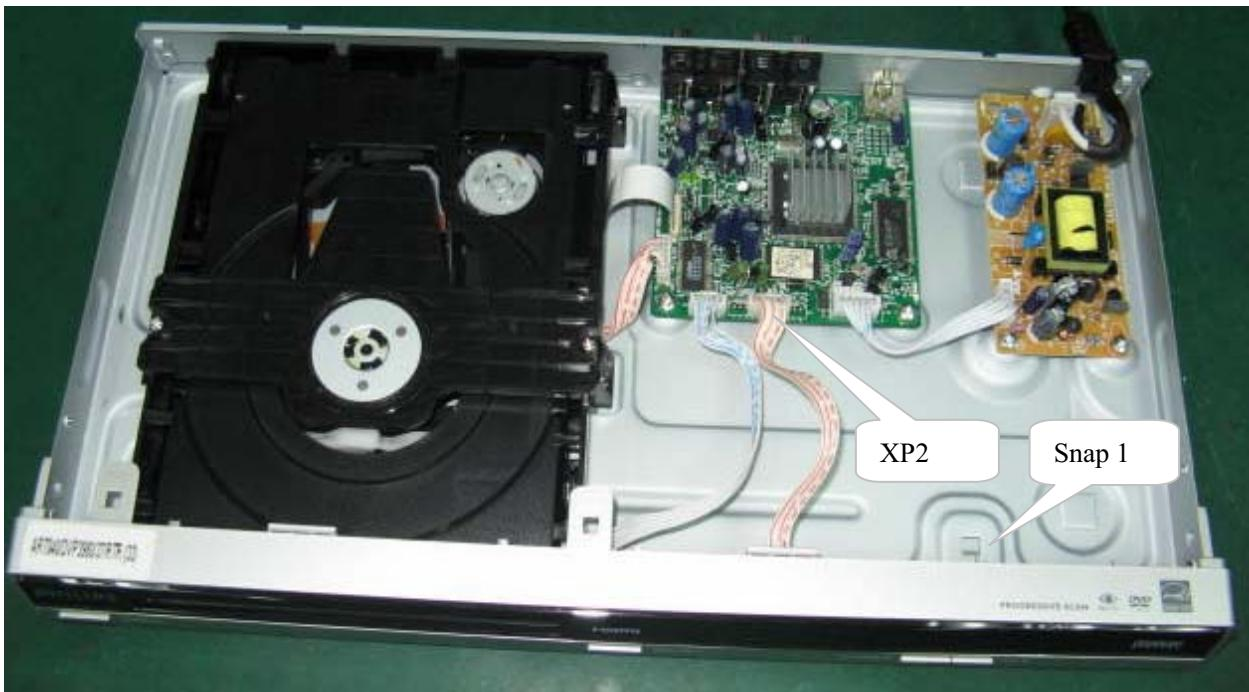

Figure 5
**Step4:** Dismantling Front Panel, disconnect the connector (XP2), then release the snaps on the both sides of Front Panel and bottom cabinet , then gently pull the Panel out from the set. (Figure 5 & 6 )